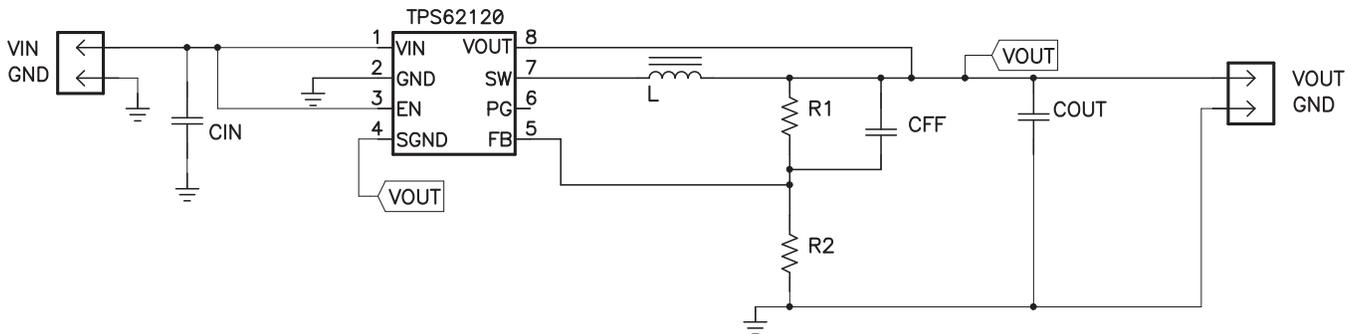
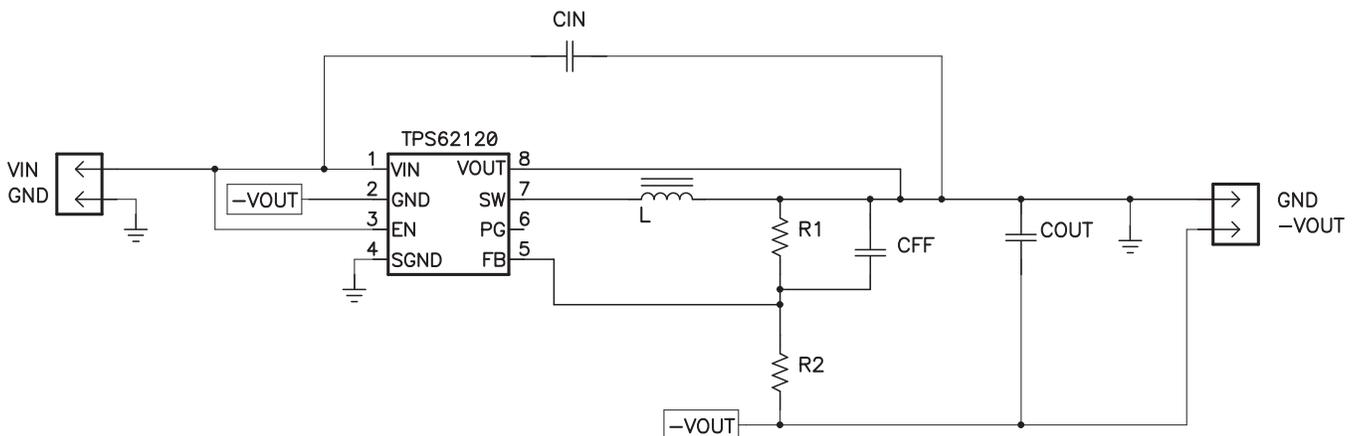

Figure 1. TPS62120 Buck Topology
Figure 2. TPS62120 Inverting Buck-Boost Topology
The inverting buck-boost topology is very similar to the buck topology. In the buck configuration shown in Figure 1, the positive connection (VOUT) is connected to the inductor and the return connection is connected to the integrated circuit (IC) ground. However, in the inverting buck boost configuration shown in Figure 2, the IC ground is used as the negative output voltage pin (labeled as -VOUT). What used to be the positive output in the buck configuration is used as the ground (GND). This inverting topology allows the output voltage to be inverted and is always lower than the ground.